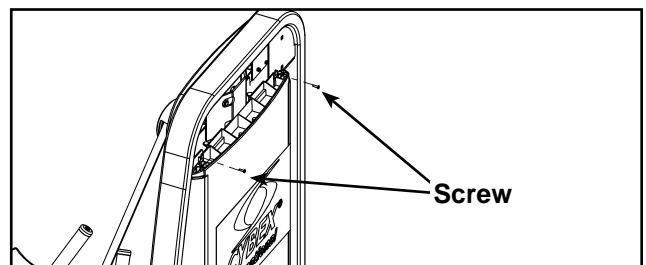

Figure 12
- B. Install the top two screws securing the back shroud. See Figure 12.